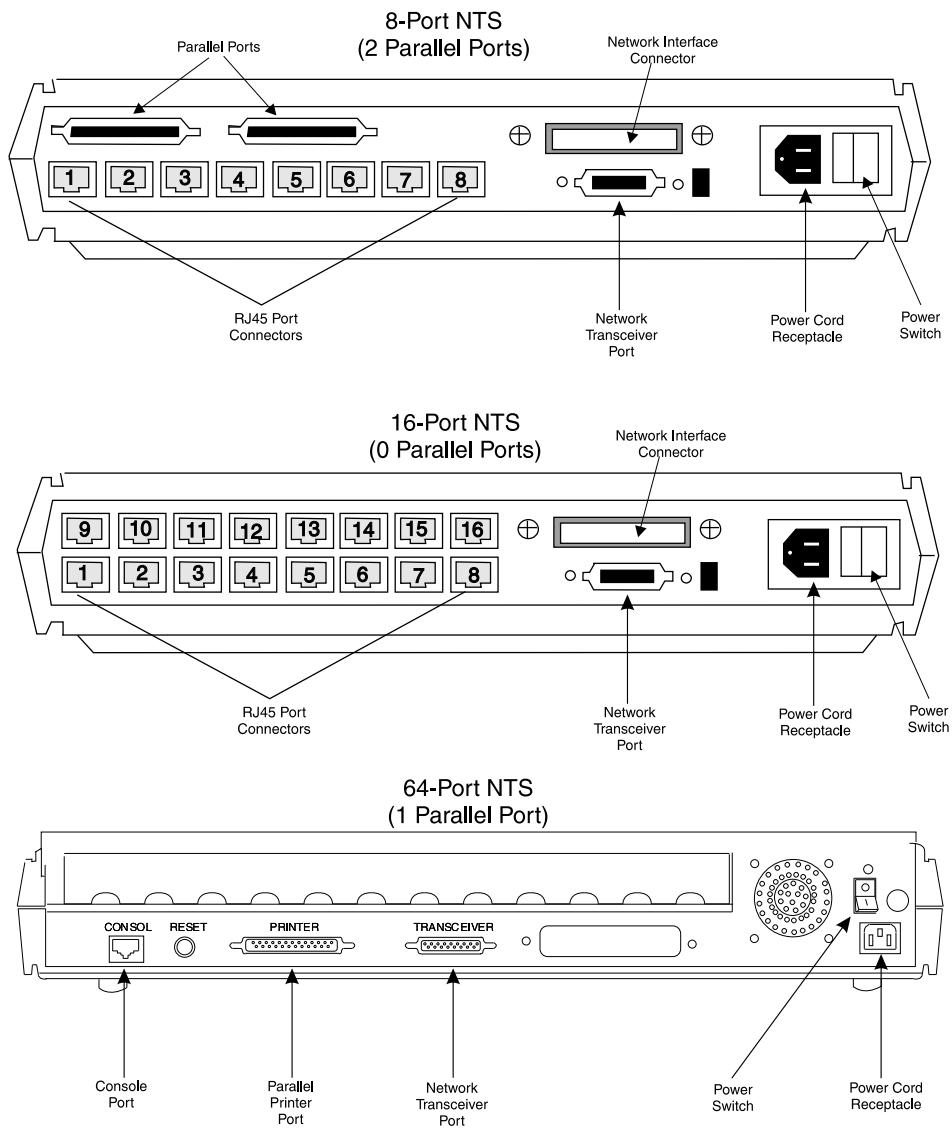

**Figure D-60: Network Terminal Server — Back Panel**
5. Connect the power cord to the NTS (see Figure D-60).
6. Connect the 10-T transceiver to the network transceiver port on the back panel of the NTS (see Figure D-60).